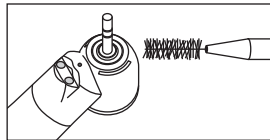

Fig. 43
- 6) If debris still does not come off, use the brush supplied, and clean the slits. Go back to step 2. (Fig. 43)